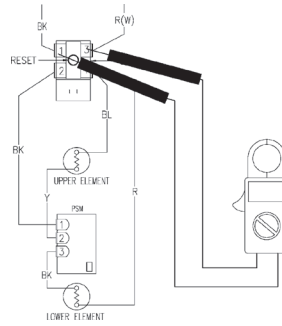

Figure 2
5. Check voltage across terminals 1 & 3 of the High Limit (ECO) (see Figure 2).